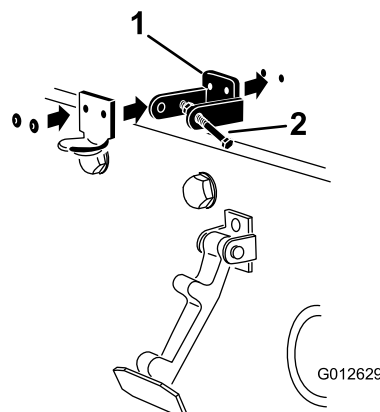

Figure 4
3. While aligning the mounting holes, position the CE lock bracket and the hood-latch bracket onto the hood. The lock bracket must be against the hood (Figure 4). Do not remove bolt and nut assembly from the lock-bracket arm.
5. Rivet the brackets and the washers to the hood (Figure 4).